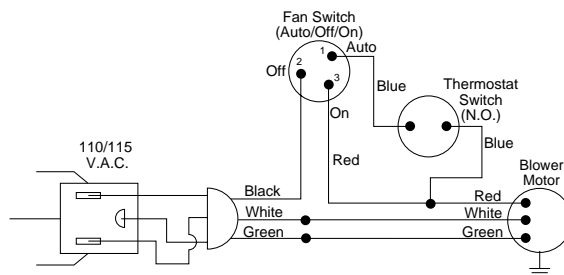

Figure 26 - Wiring Diagram For Blower Accessory Built-In Installation
- A licensed electrician must follow the wiring diagram to connect incoming electrical supply to fan kit wiring harness (see Figure 26).